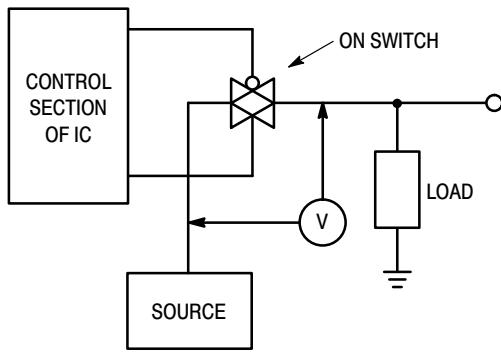

Figure 1. ΔV Across Switch
| Recommended Static or Dynamic Voltage Across the Switch (3) (Figure 1) | ΔV _{switch} | - | Channel On | 0 | 600 | 0 | - | 600 | 0 | 300 | mV |